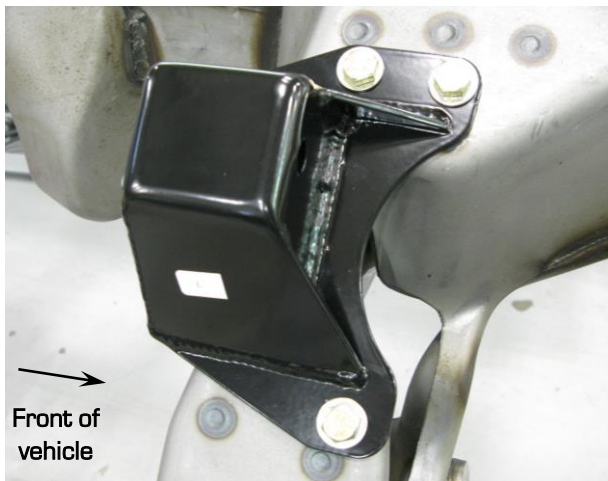

Figure 1 - LH Frame Stand
4. Attach the frame stands to the subframe using three 3/8"-16 x 1" L hex head bolts (#13) and three 3/8" flat washers (#14) per side. There is a LH and RH stand. Follow the pictures in Figures 1 & 2 for proper orientation. Use High Strength Loctite (p/n: 262) on these bolts when installing and torque the bolts to 35 ft. /lbs.